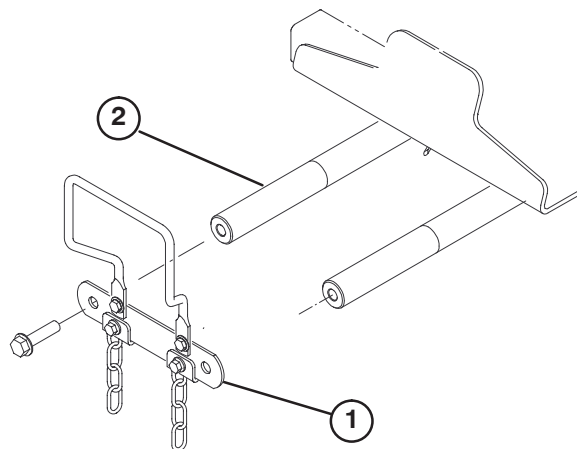

Figure 8
- Remove (2) capscrews securing lift arm pivot shaft link to lift arm pivot shafts. Remove and retain pivot shaft link and capscrews (Fig. 8).